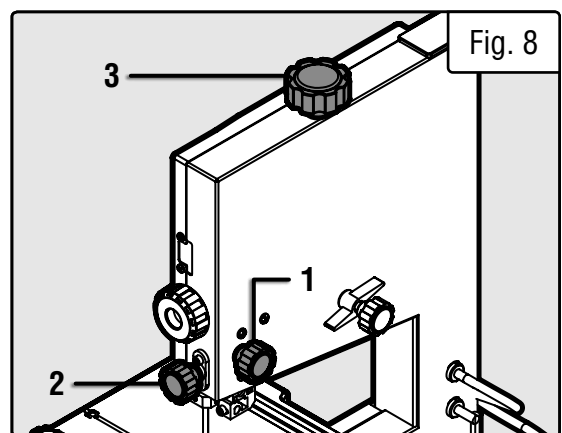

Fig. 8
1. Loosen the blade guard lock knob located on the back of the saw (Fig. 8 - 1). Raise the blade guard to the top by turning the blade guard adjustment knob (Fig. 8 - 2). Lock the blade guard.
3. Turn the tension knob (Fig. 8 - 3) clockwise to increase the blade tension or counterclockwise to decrease tension. Check and adjust the tension as necessary to make sure the blade is properly tensioned.